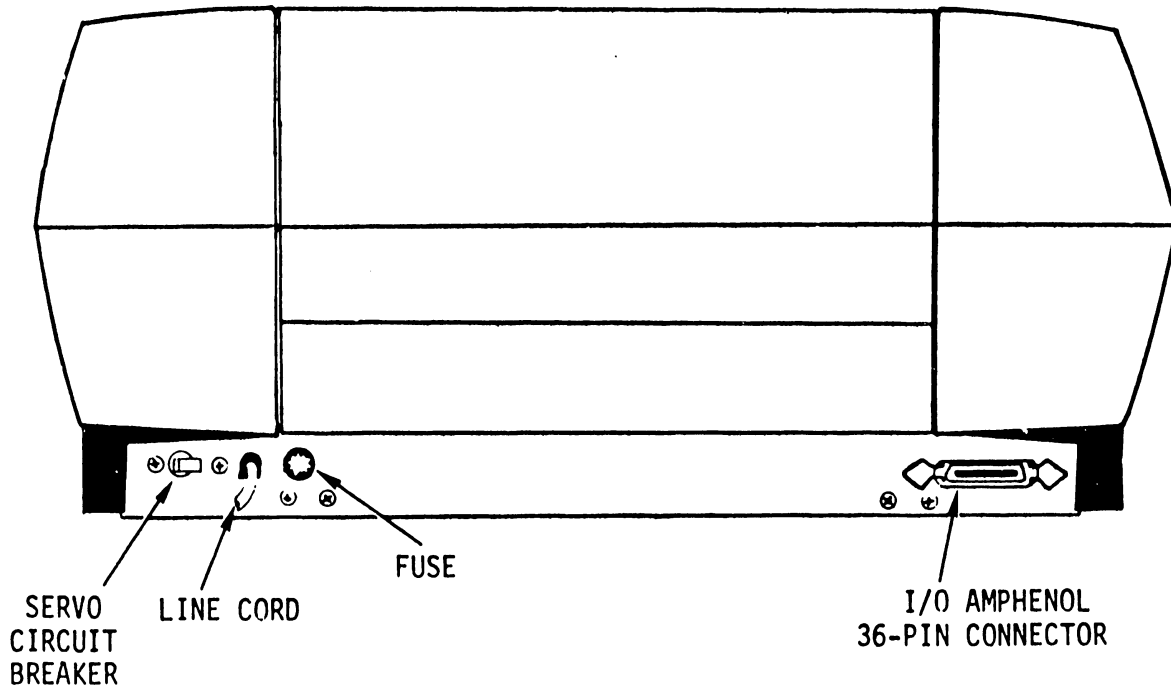

FIGURE 2-6 PRINTER (REAR VIEW)
- SERVO CIRCUIT BREAKER:** Resettable breaker switch which opens when Servo Current exceeds breaker limit. See Figure 2-6.
- MAIN FUSE:** 4 amp (SB) 250 volt fuse for 115 VAC or 2 amp (SB) for 230 VAC which fuses entire unit.